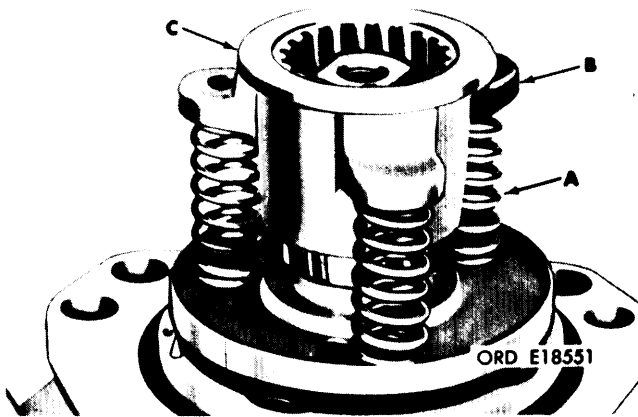

Figure 3-133. Installing sliding gear.
(8 Refer to figure 3-133. Install three timing device springs (A) and sliding gear (B) on timing device. Install proper sliding gear spacer (C) as determined in (7) above.